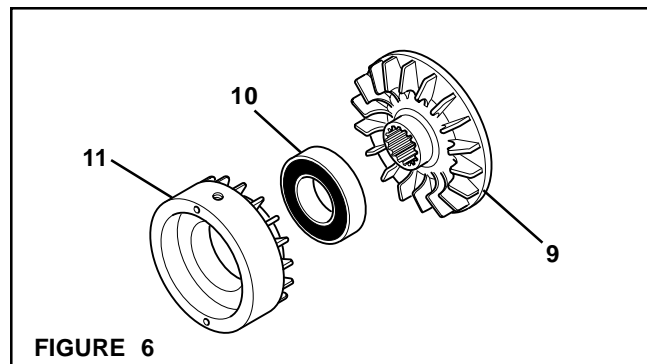

FIGURE 6
8. Using a bearing puller, remove the Cylinder (Item 11) from the Bearing (Item 10) and Friction Disc (Item 9) (See Figures 6 and 7).
9. Using a bearing puller, remove the Bearing (Item 10) from the Friction Disc (Item 9) (See Figures 6 and 8).